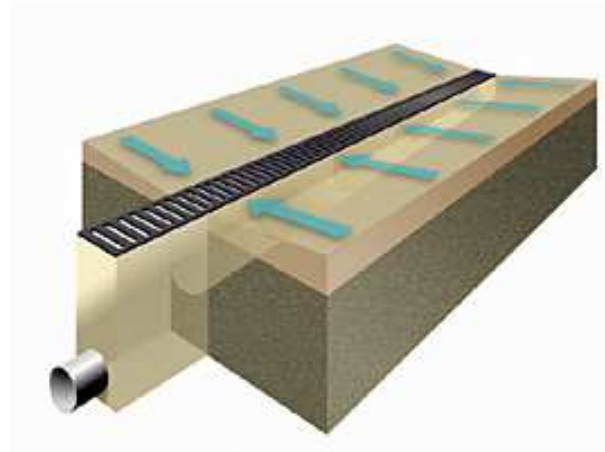

Figure 2.
- Grated trench drains (Figure 2.), which can be further categorised into: